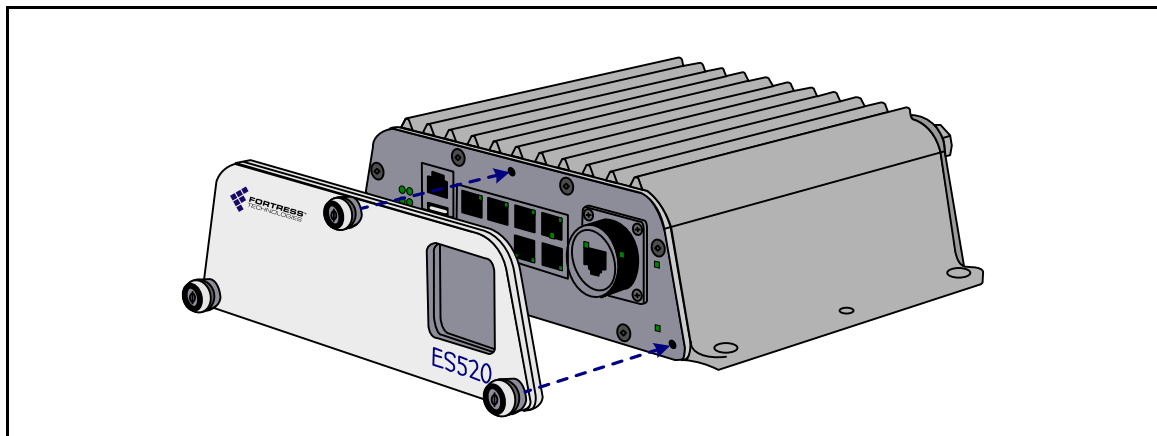

Figure 2.4. Attaching the Front-panel Cover Plate for an ES520 version 1
- 2 Attach the cover plate to the Mesh Point's front panel with the plate's three captive screws, as shown in Figure 2.4.